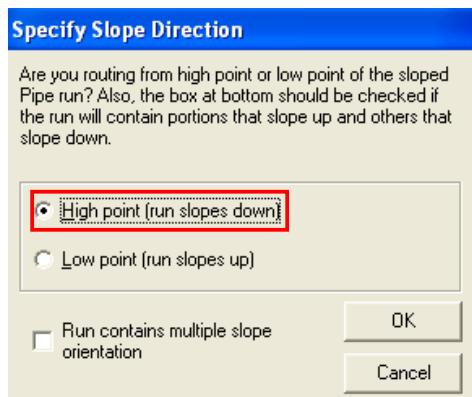

Figure 52: Specify Slope Direction Dialog Box
7. The **Specify Slope Direction** dialog box appears, as shown in Figure 52. You need to route a pipe that slopes downwards. Select the **High point (run slopes down)** option and click **OK** to close the dialog box.